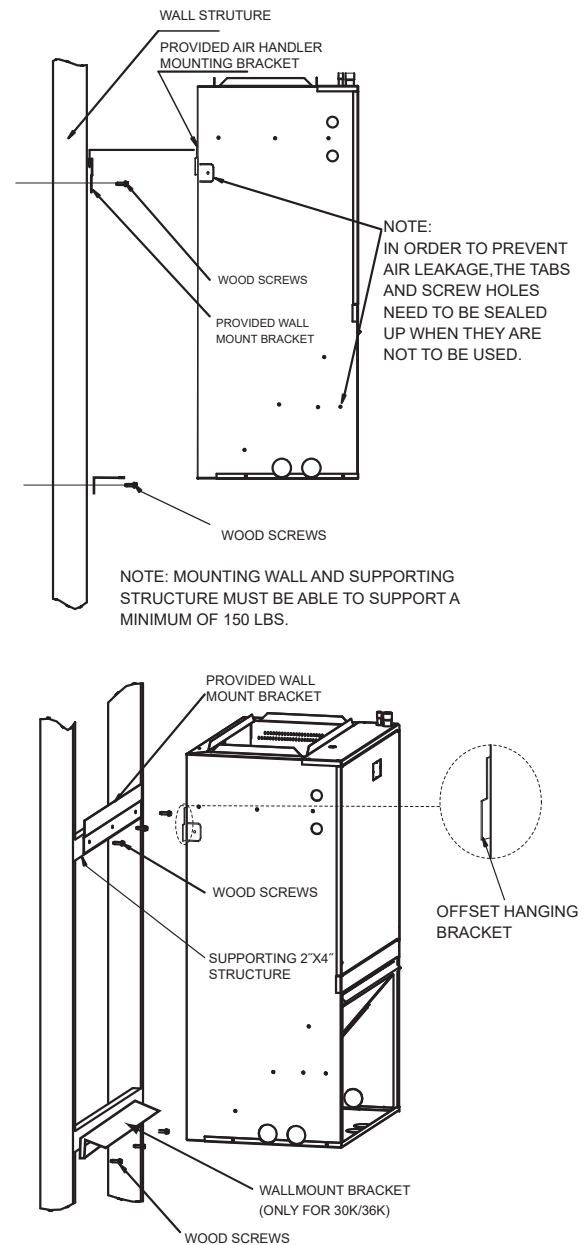

Fig. 3-1 WALL MOUNT
The air handler comes standard with a wall mounting bracket and air handler mounting bracket. Reference Figure 3-1 for more detail.
3. Lift the air handler above the wall mounting bracket and attach the unit to the installed bracket. Reference Figure 3-1.
4. Install the additional bottom plate for extra support for this type mounting (see figure 3-1).